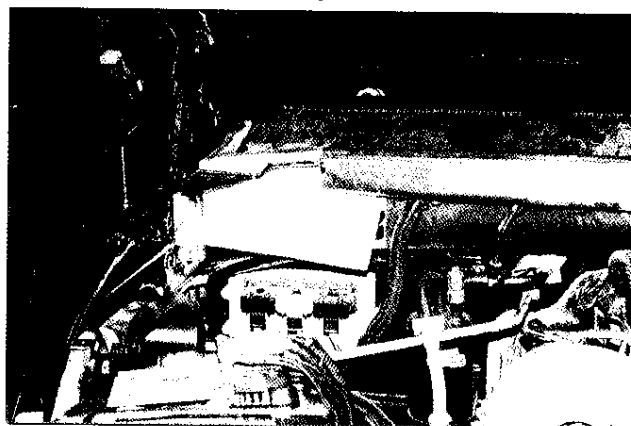

Fig. 8
- Orient the template on the plenum, using the guidelines indicated on the template (Fig. 8). Place the template so that the upper part of the template fits against the corresponding contour of the plenum.